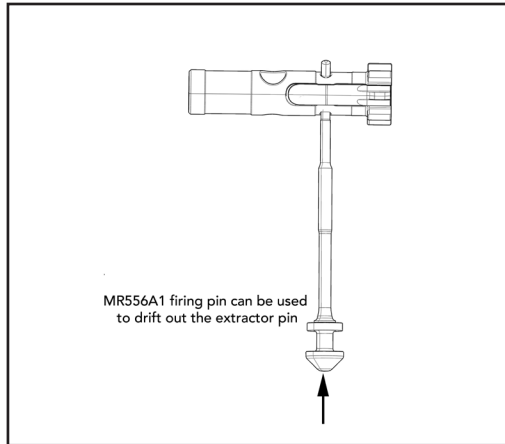

Fig. 42- Drift out the Extractor Pin
- g. Depress the rear of the extractor to equalize pressure and then drift out extractor pin utilizing the small tip of the disassembly tool. The rifle's firing pin can also be used. The extractor pin can be removed from either direction (Fig. 42).